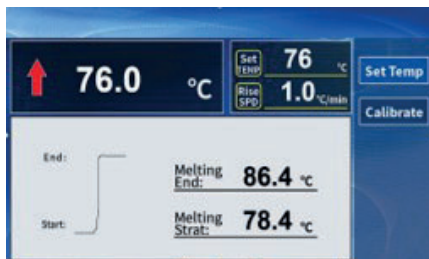

Fig. 3
- 3) Insert the capillary with testing sample into the oven, press [Rise TEMP] and the display shows as in Figure 3.
6) As the temperature rises, the melting curve of the sample will be depicted on the display screen, and the initial and final melting temperatures will be displayed, as shown in Figure 3.